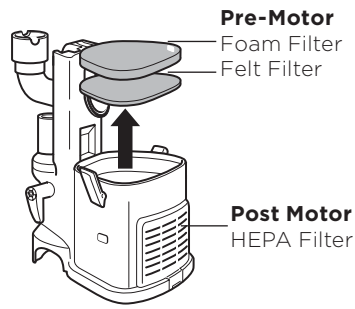

Fig. 21
- 2 Pull the 2 filters out from the top of the pod. **(Fig. 21)**